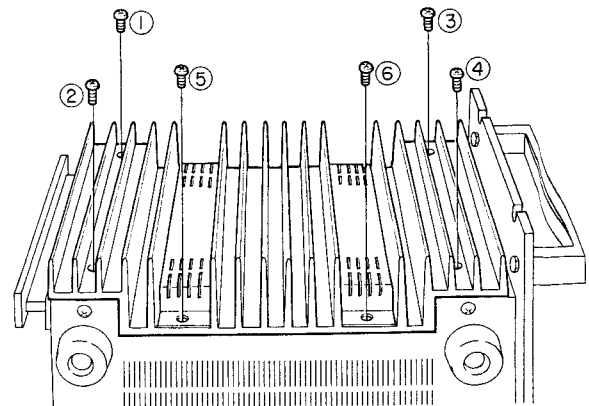

Fig.2
(2) Remove heat sink by removing screws (1) ~ (6) (Fig. 2)